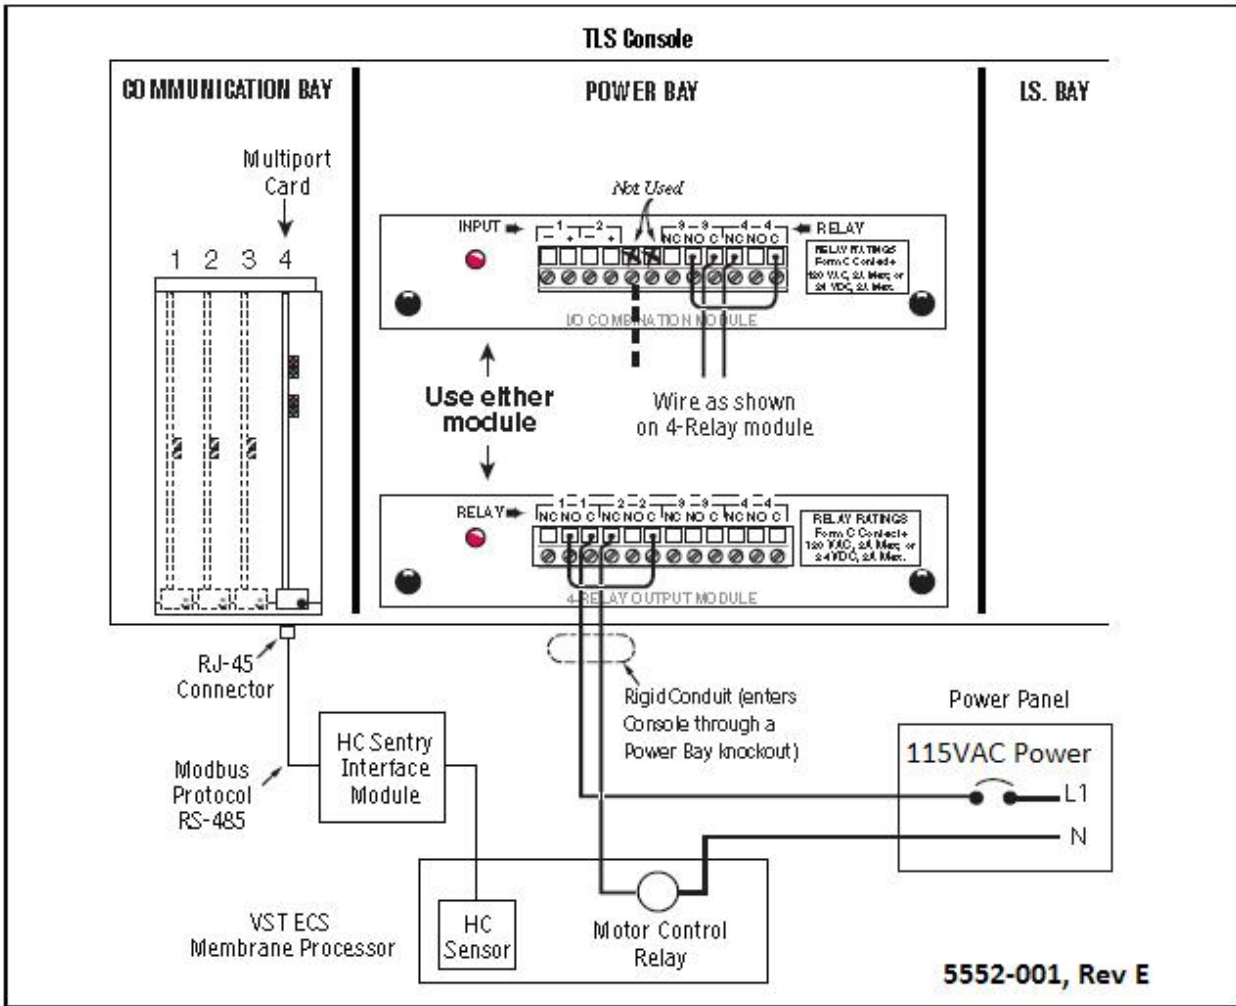

Figure 8: Wiring the Motor Starter Relay Coil
- See Figure 8 for connections to the TLS-350.